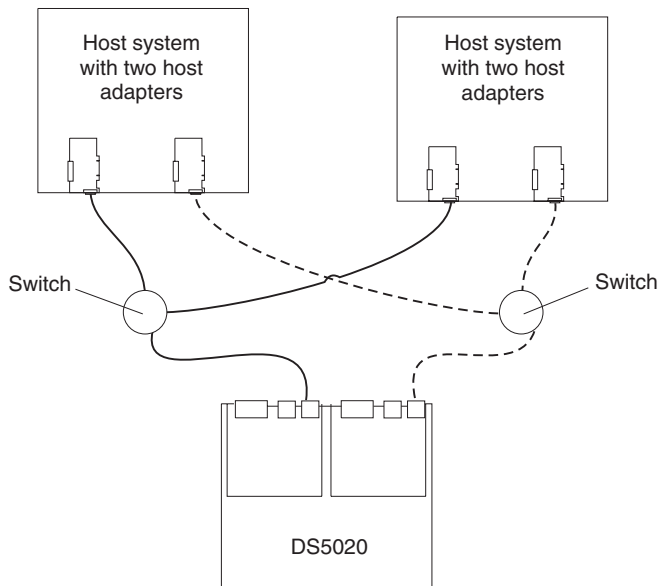

Figure 58. Example of a dual SAN fabric configuration
- Dual SAN fabric configuration, as shown in Figure 58 on page 86
In Figure 58, the Fibre Channel switches are connected together via the inter-switch link (ISL) to form a dual SAN fabric.